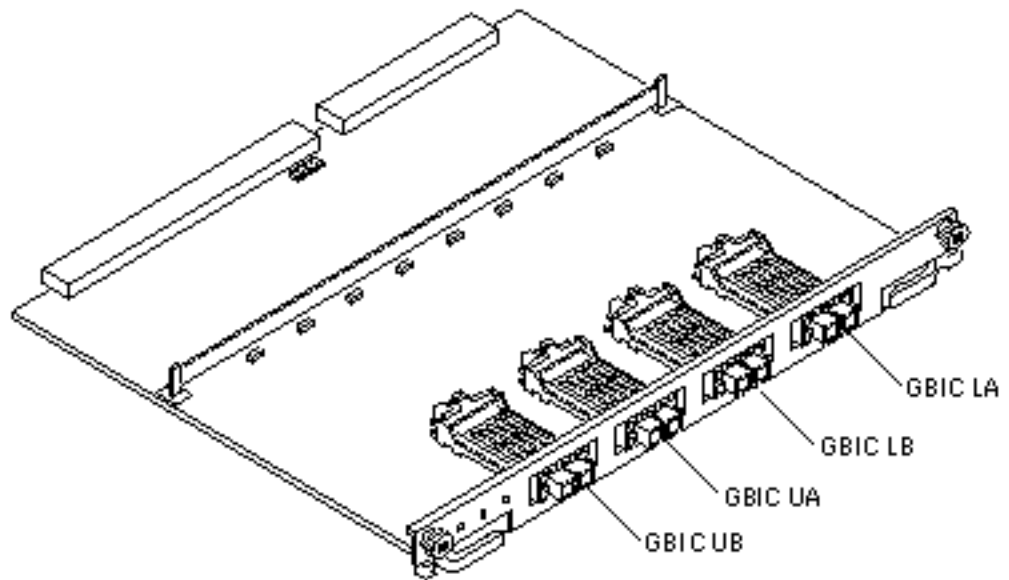

Figure 2-10 Interface Board
Internal FC-AL disk drives require an interface board (IB) to communicate via the I/O+ board. Figure 2-10 identifies the GBIC ports on the interface board, and Table 2-2 identifies the GBIC associated with each disk drive.